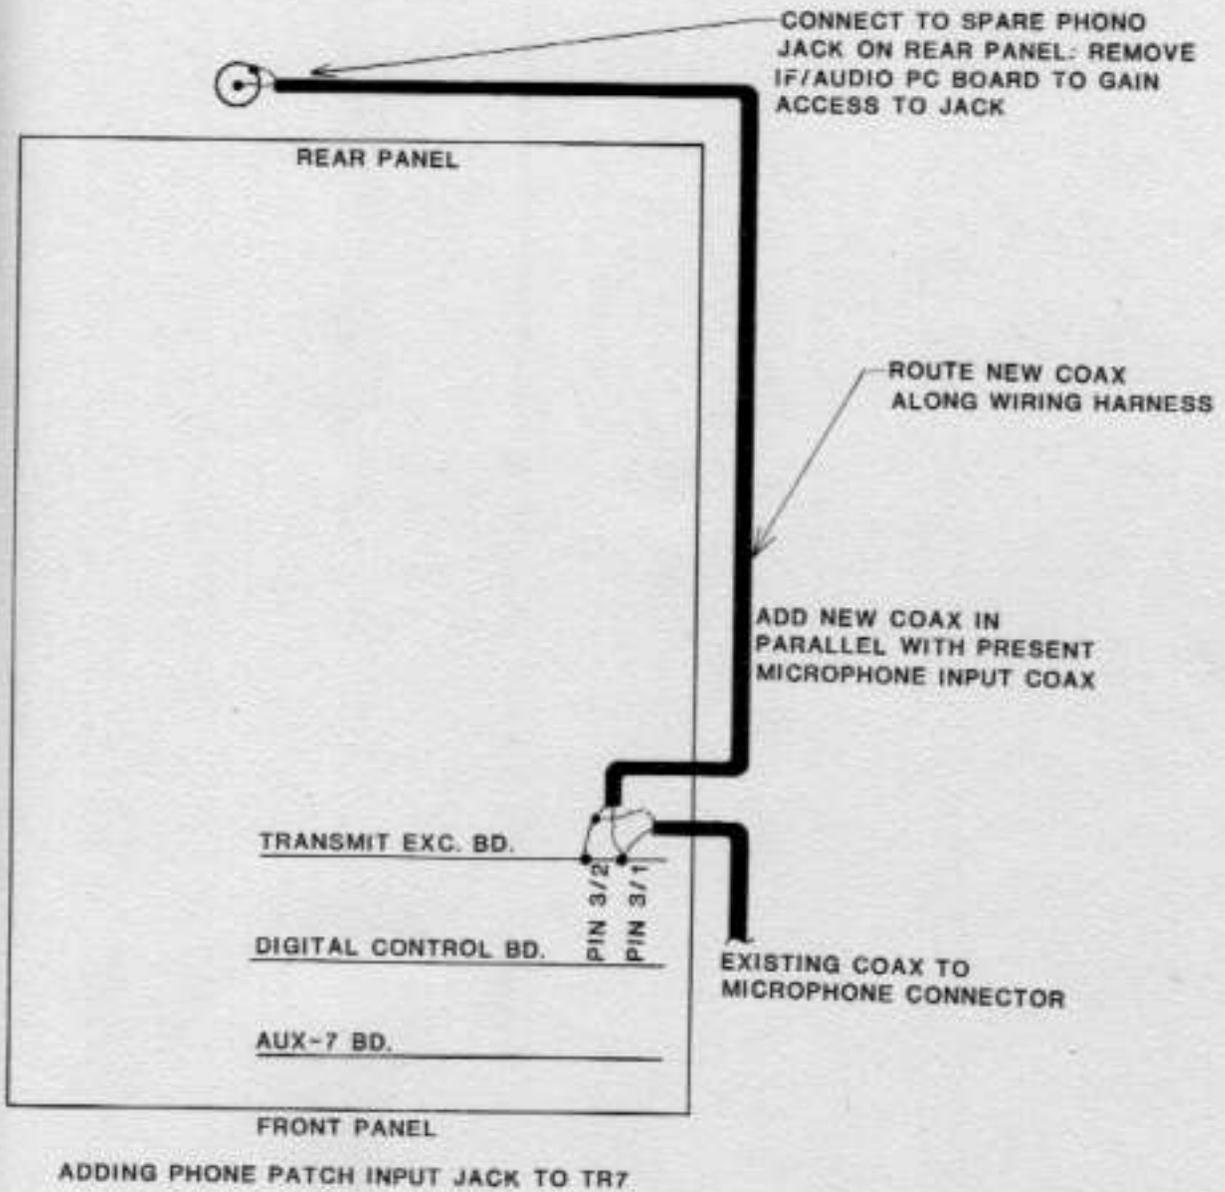

Figure 6 TR7 patch input jack wiring
| Figure 6 | TR7 Patch Input Jack Wiring | 17 |
The above mentioned connection can be accomplished in either of two ways. The P75 can be connected to PIN 1 of the microphone connector externally if very small shielded wire is used. However, the best method is to modify the TR7 to add a separate phone patch input jack. This can be accomplished by connecting the spare phone jack on the TR7 rear panel to the microphone input connection on the parent board. Be sure to use a piece of shielded cable and connect as shown in figure 6. After installing this modification in the TR7, connection can be made as described in paragraph (2) above. No connection will be made to the P75 MIC phono jack.